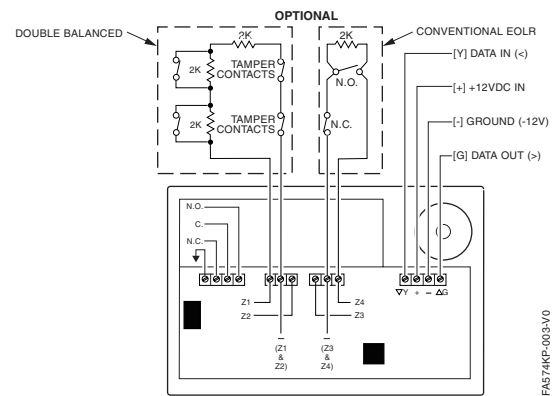

Figure 4. Wiring Details
4. Connect the power/data wires to the four screw terminals on the keypad's PC board marked as shown in Figure 4 and as follows:
5. Connect the wires for the four 2K EOLR zones to the six screw terminals on keypad PC board as shown in Figure 4 and as follows:
6. Connect the zone contact's wires (door strike, etc.) to the three relay terminals marked NC, NO, and C as shown in Figure 4 and as follows: